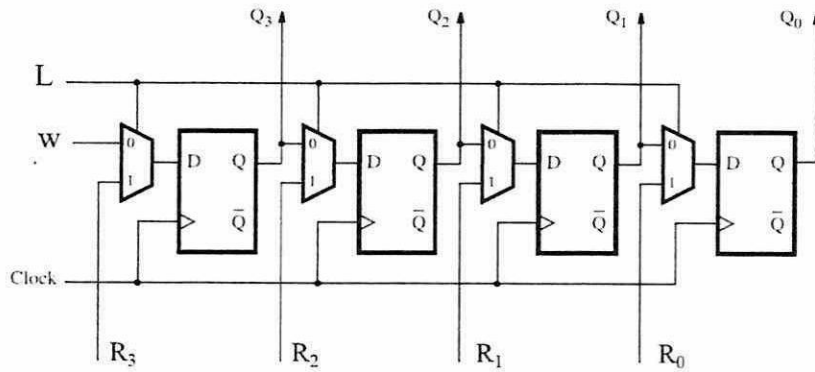

Figure Q4.5
- (e) For the circuit in **Figure Q4.5**, determine the output  $Q$  at the next positive clock edge if  $L = 1$ ,  $w = 1$ , and  $R = 1011$ .